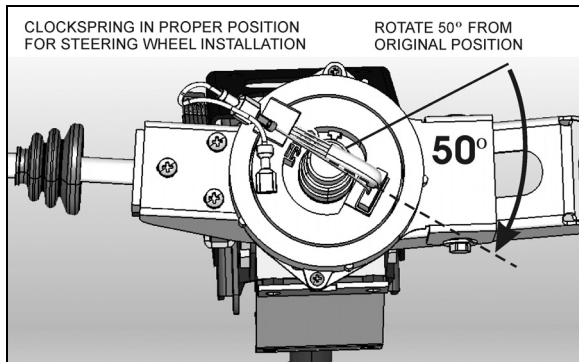

FIGURE 13: PROPER CLOCKSUPPORT POSITION
5. Break the paper seal and rotate the center part of the clockspring about 50° clockwise (Fig. 13). This step is necessary for the installation of the steering wheel.